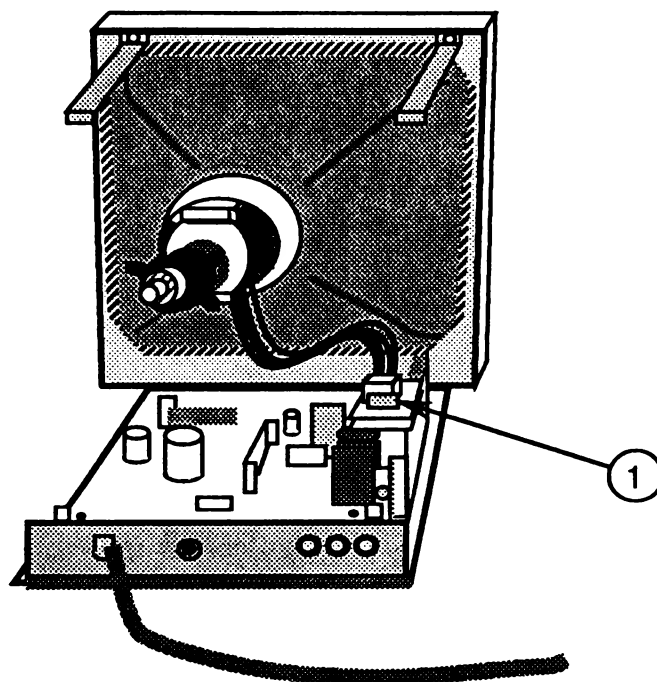

FIGURE 31
12. Reconnect the CRT connector (red/blue/yellow/green) to the power supply board (Figure 31, #1).